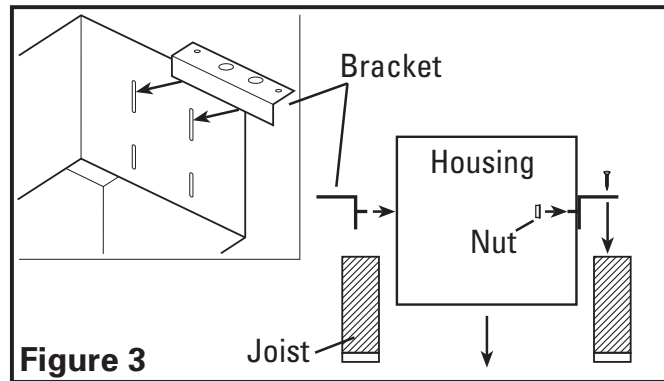

Figure 3
- 1b. **Installation on 2x6 Joists on 16" Centers:** Install the mounting brackets through the second set of slots on the fan housing and secure in place with the four included #10-32 nuts as shown. Center the fan housing between the joists and secure the mounting brackets with screws or nails (not included) to the joist. Adjust the height of the housing so that it is flush with the finished ceiling by loosening the mounting bracket nuts and sliding the housing up or down on the bracket. Fully tighten all four nuts to secure the housing in place (Figure 3).